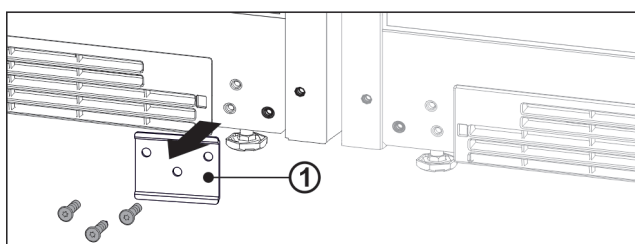

Fig. 13
- ▶ If the metal plate Fig. 13 (1) is installed, unscrew the metal plate.